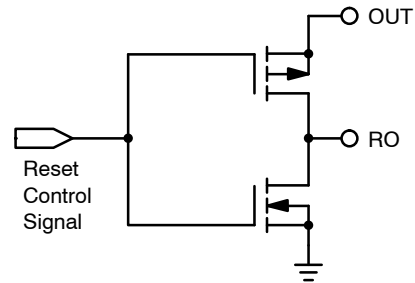

Figure 24. Reset Output Circuitry
The Reset Output (RO) circuitry includes an active internal pullup to the output (OUT) as shown in Figure 24. No external pullup is necessary.